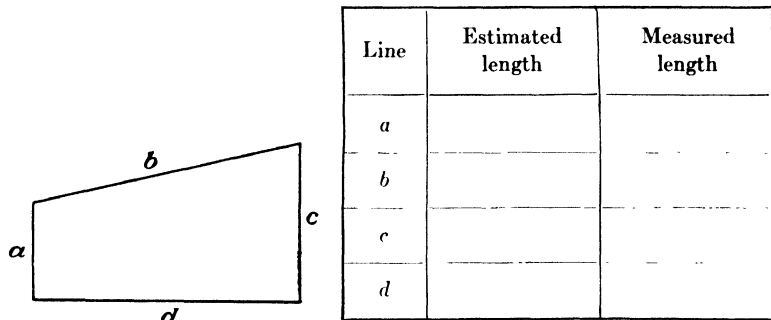

Fig. 6.
8. Estimate the length of the lines in Fig. 6; then measure them with a rule graduated in 64ths. See how well you can judge the length of a line.